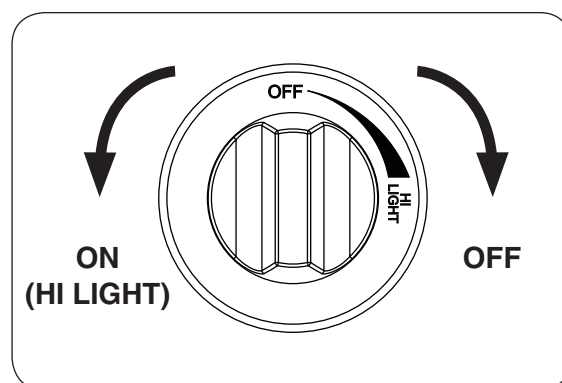

Fig. 35-2
4. **Once the match is burning and in position**, depress the gas control knob and turn it counter-clockwise to the **HI LIGHT** position (see Fig. 35-2). Your burner should light.
To extinguish your gas burner, depress the gas control knob and turn it clockwise to the **OFF** position (see Fig. 35-2). Be sure the control knob is turned fully off to avoid any gas leakage.